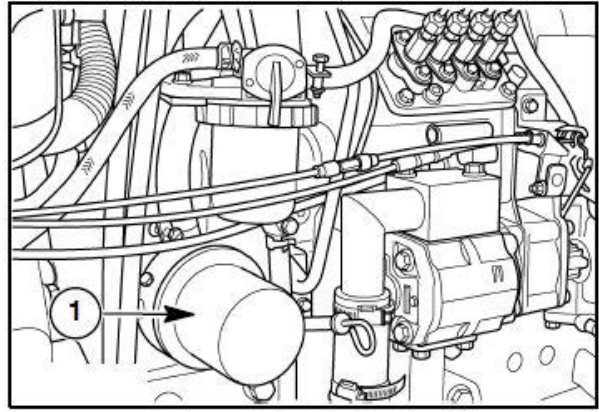

Figure 3-6
2. Next, Place a suitable container below the oil filter (1) in Figure 3-6, to catch the used oil and unscrew the oil filter. Discard the used oil and filter.